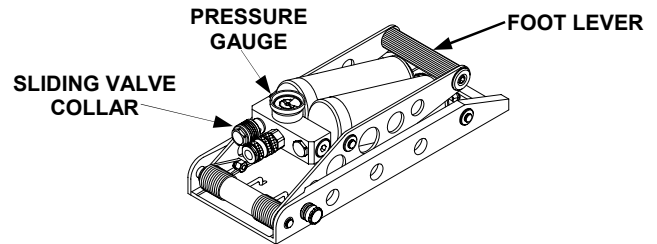

Figure 2-1. Manual Compressor Controls and Indicators
- a. **Manual Compressor.** The only controls on a manual compressor (figure 2-1) are the foot lever used to deliver pressure and a sliding valve collar that permits isolating one of the two cylinders thereby increasing the delivered pressure and decreasing the delivered volume by a factor of 2.
- a. **Manual Compressor (Figure 2-1).** A delivery pressure gauge is provided on the manual compressor. The gauge is marked in 20 psi increments from 0 psi to 200 psi and is scribed each 2 psi. The pressure gauge is also marked each 200 kPa from 0 to 1400 kPa and is scribed each 20 kPa.